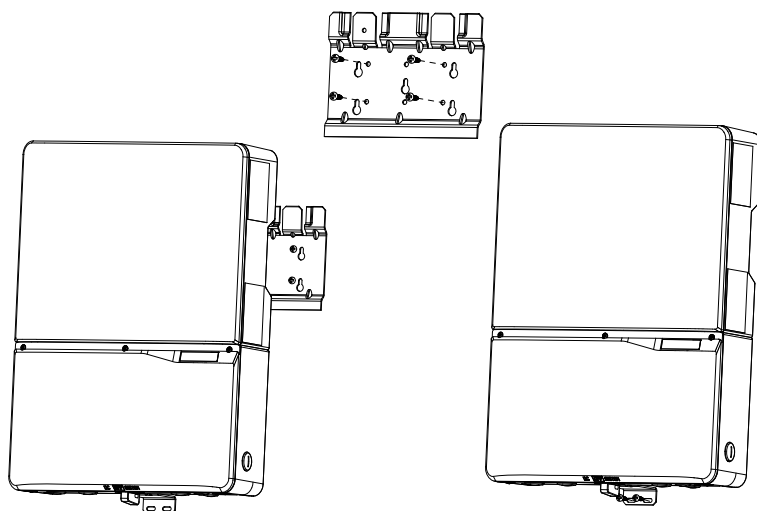

Figure 14: Installing the plate and inverter on a wood stud wall
1. Mount the mounting plate to the wall with at least 4 screws and anchors ($\varnothing$ 6mm). With 4 screws use 4 holes A or 4 holes B (see Figure 14). You can use the mounting plate as a template for marking the positions of the boreholes.